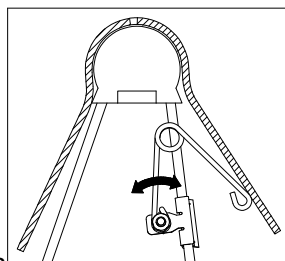

Figure E2: Cutaway view of driver side pivot arm and saddle.
- Set coupler angle.** Adjust the resting angle of your coupler plate by rotating the spring on the driver side pivot arm. Pulling the top of the spring away from the cab will increase the angle of the coupler plate. Set the angle of the coupler so that it will tilt away from the cab when coupling, see Figure E2. Tighten the 1/4" nut once the spring's orientation is set.